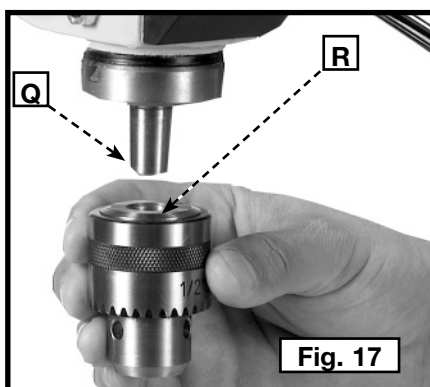

Fig. 17
**NOTE:** Make certain that the spindle taper (Q) Fig. 17 and the tapered hole in the chuck (R) are clean and free of grease, lacquer, or rust preventive coatings.